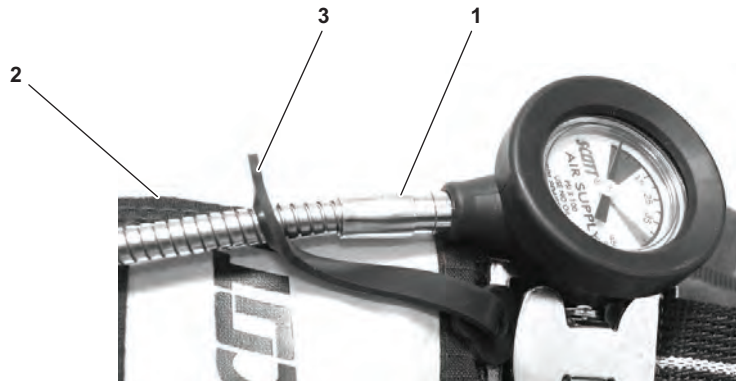

Figure 6-39. Remove Remote Pressure Indicator High-Pressure Hose
- (1) Bleed the system IAW paragraph 6.5.1.
- (2) Remove the cylinder assembly IAW paragraph 2.3.2.1 step a.
- (3) Remove the Visualert and the remote pressure indicator IAW paragraph 6.8.1 step b.
- (4) Carefully remove the remote pressure indicator high-pressure hose (figure 6-39, item 1) from the right shoulder strap (figure 6-39, item 2) and the rubber retaining strap (figure 6-39, item 3).
- (1) Guide the end of the remote pressure indicator high-pressure hose (figure 6-39, item 1) through the rubber retaining strap (figure 6-39, item 3) and the right shoulder strap (figure 6-39, item 2) from the bottom and out the top, as worn.